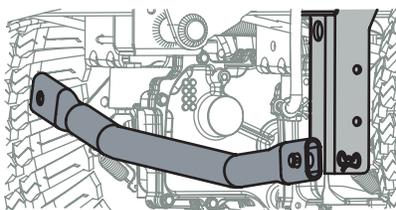

Figure 51
- Remove the bow-tie cotter pin on the left side of the bar, connecting the bar with the bracket on the frame. See Figure 51.